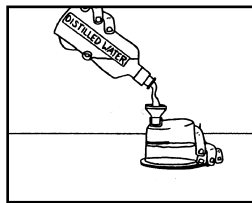

Fig 2
5. Using the funnel provided, fill the water chamber up to the black line with distilled water. (See Fig. 2)